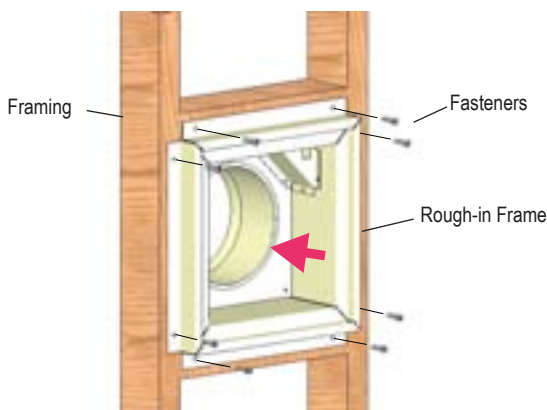

Figure 6a. Orientation, Placing the Power Vent Inner Box
**Step 2.** Insert the Power Vent Rough-in Box as shown in Figure 6a. Fasten the Box securely in place with Screws or nails, Figure 6a. Apply exterior sheathing and finishing if required.
The fireplace should be installed on the rough-in frame, **Figure 6a** with the Power Vent Module and the Vent Termination connected.